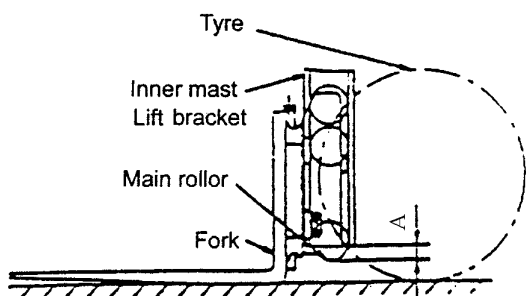

Fig. 8-6
- (1) The truck should be stopped on horizontal ground. And ensure the mast vertical.
- (2) Lower the forks on the ground, adjust the set nut on the upper of chains to assure the distance A between main rollers and the lift bracket. (Fig. 8-6)